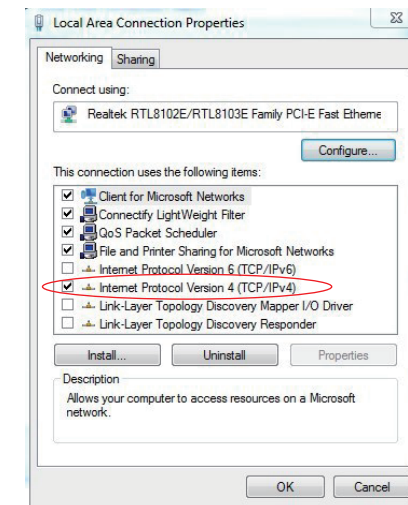

Fig. 7.3
3) Double click “Local connection” icon and click “Properties” to enter “Local Area Connection Properties” (See Fig. 7.3).